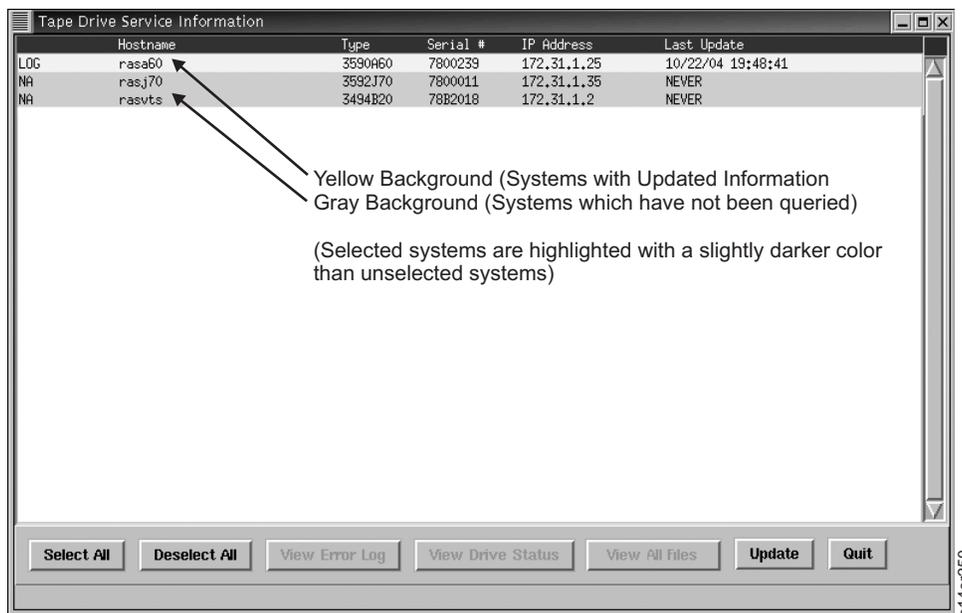

Figure 162. Tape Drive Service Information – Main Screen
1. See Figure 162. After you complete the System Console configuration, the tool to update and review tape drive service information for attached systems is automatically enabled. Right click from anywhere in the Desktop to view the Main Menu shown in Figure 58 on page 48.
3. The Figure 162 lists all systems attached to the System Console which might have tape drive information available. The Main Screen shows a summary of the update status of the systems attached to the System Console as of the DATE and TIME INDICATED in the right column. The systems listed are highlighted according to the following color scheme:
- Each report may be viewed by selecting one of the systems listed on the Main Screen (Figure 162 on page 125), then clicking **View Error Log** or **View Drive Status**. Systems may be selected by pointing to the system list entry, and clicking the left mouse button once. (Clicking the entry a second time deselects the system.)
- From the Main Screen in Figure 162 on page 125, select **Quit** to quit.